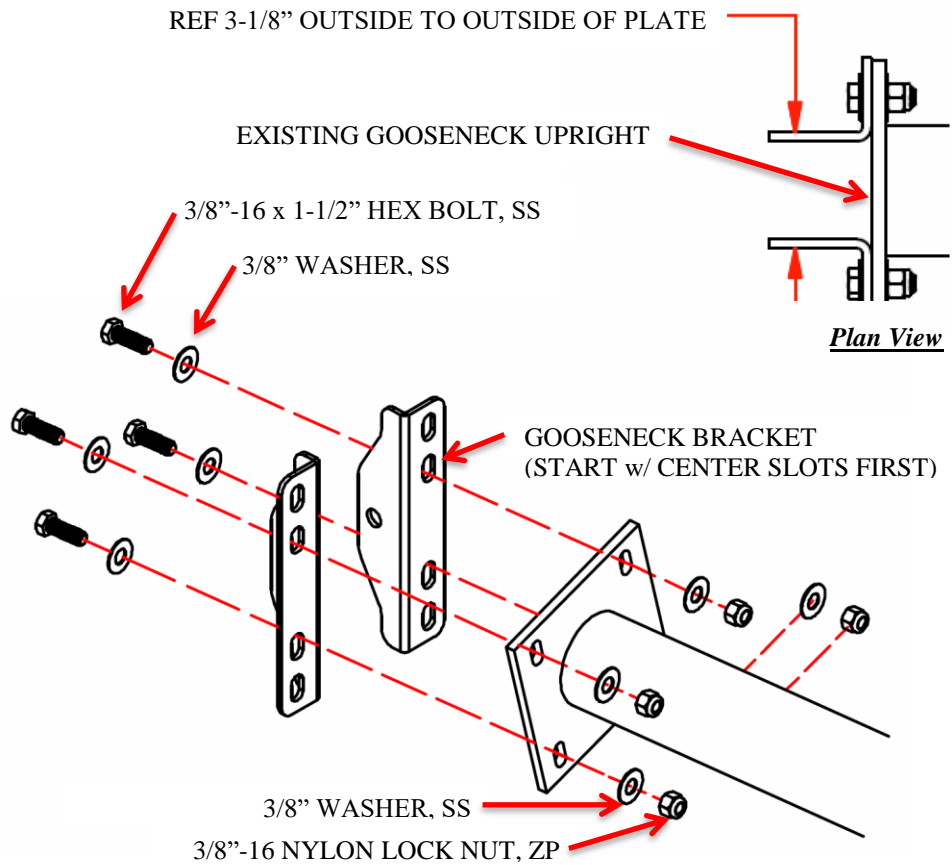

Figure 1
3. Attach the H-Frame gooseneck bracket together as shown (*figure 1*).